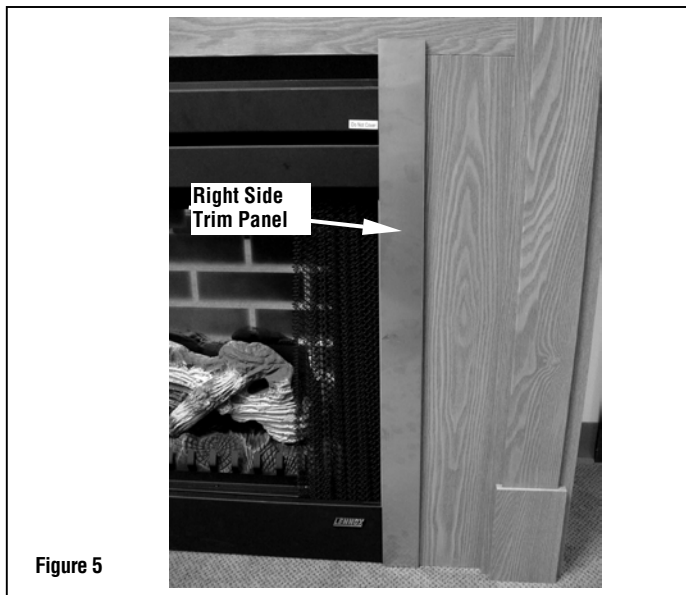

Figure 5
- **Brass and Stainless Trim Kits** – Place side trim over channels, then press firmly so double sided tape adheres panels to channels (see *Figure 5*).
- **Black Trim Kits** – Place side trim panels over magnets on each side of the fireplace face as shown in *Figure 5*.